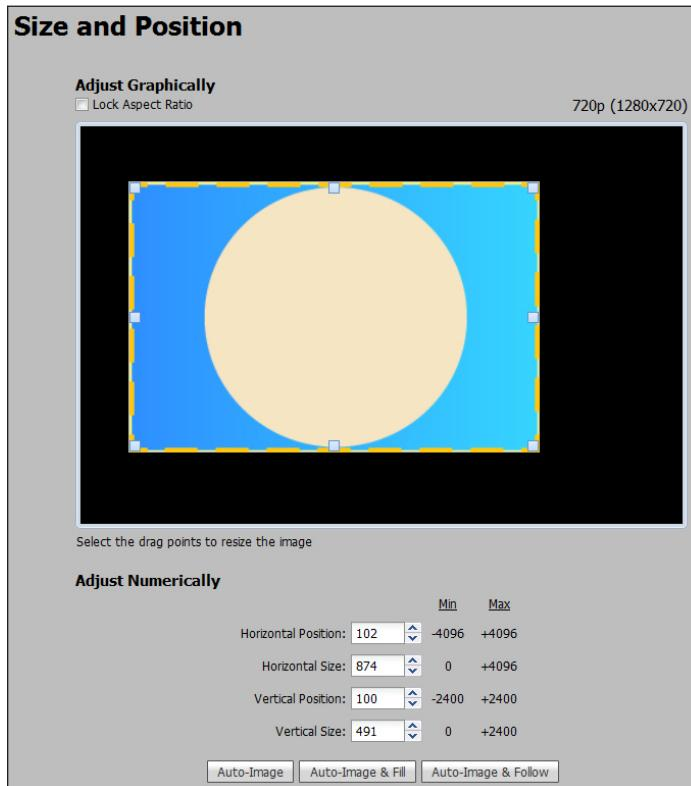

Figure 43. Size and Position Page
1. Click and drag the drag points of the sample image to resize the image within the designated space (defined by the black area in figure 43 above).
2. Click anywhere inside the sample image (see the blue rectangle with a circle inside in figure 43 above) and drag it anywhere within the designated space to reposition the image.